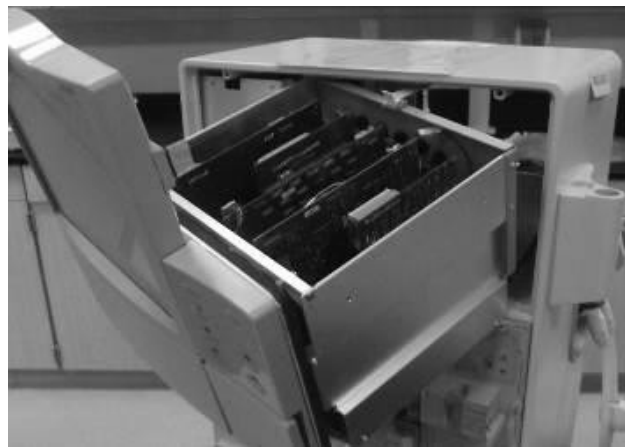

Figure 5
12. Slide the card cage out as shown in Figure 5. This allows for access to the IV pole holder mounting screws as well as the inside of the card cage.